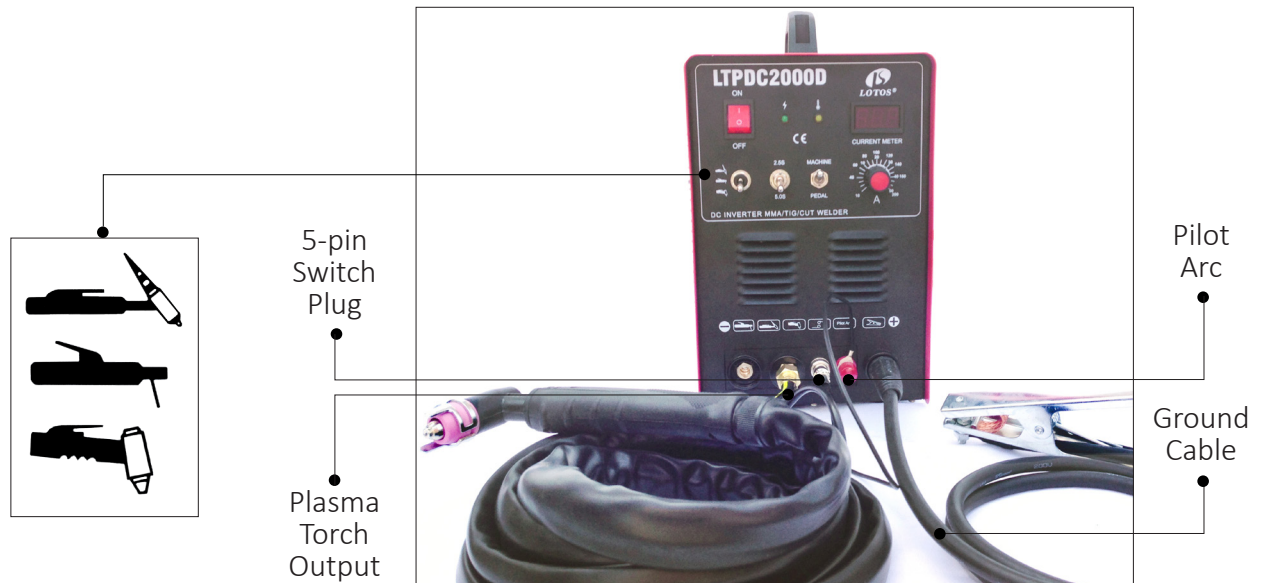

Figure 1.4
3. Connect your plasma cutting torch and ground cable to the front panel of the machine. Make sure the ground cable is connected on the right hand side where the “+” sign is located. (Figure 1.4)
- Set TIG Weld/Stick Weld/Plasma Cut to TIG Weld mode (refer to Figure 1.4, page 2)
- Set TIG Weld/Stick Weld/Plasma CUT to TIG Weld mode (refer to Figure 1.4, page 2).
- Set TIG Weld/Stick Weld/Plasma Cut to Stick Weld mode (refer to Figure 1.4, page 2).